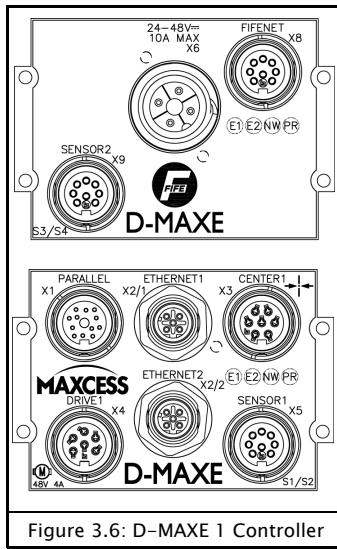
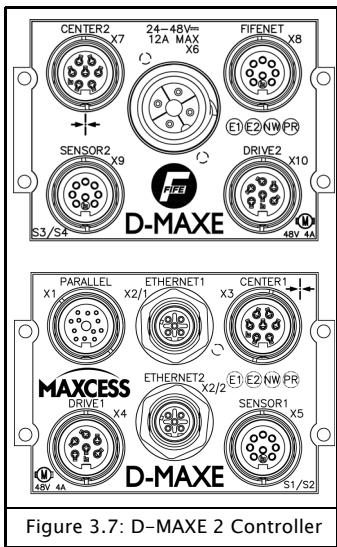

Figure 3.6: D-MAXE 1 Controller
Figure 3.7: D-MAXE 2 Controller
- Panel mount installation (see figure 3.6) or
The D-MAXE Controller must be connected to the power supply according to the information supplied at connector X6 of the controller (see *figure 3.6* and *figure 3.7*).